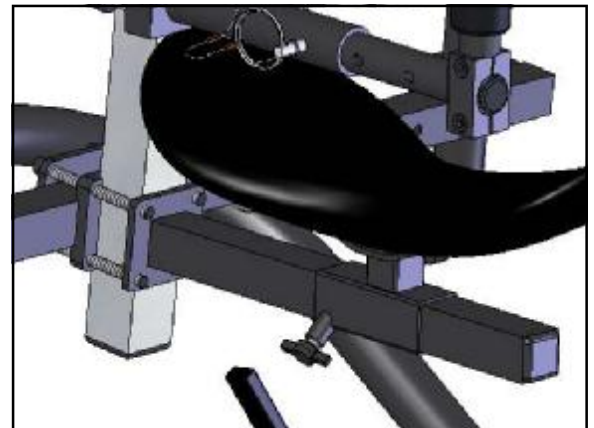

Figure 19A
1. Mounting: Handholds with arm troughs are mounted on the back of the sit bar. Secure the arm troughs to the sit bar with the four Allen screws and nyloc nut. Figure 19A It is easiest to mount with the sitbar removed from the column.
2. Width: The width is adjusted by loosening the clamping knob (2) and removing the ball lock pins (1) on the cross bar and sliding the tubes inwards or outwards. Figure 19A